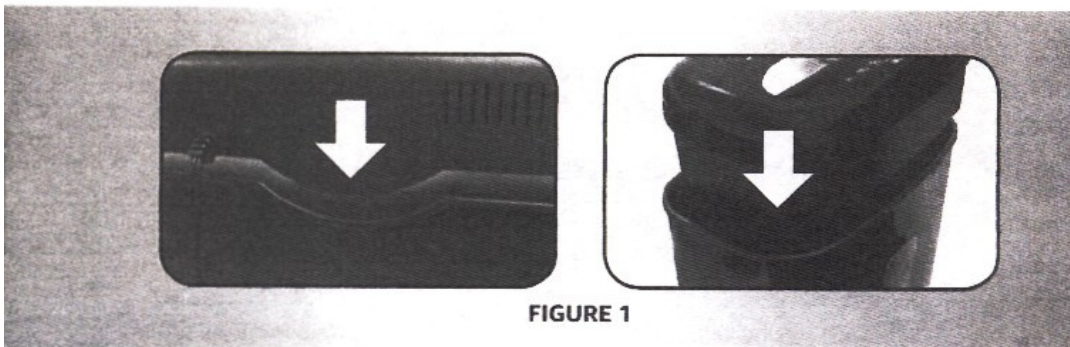

FIGURE 1
1. This model includes a built-in safety interlock mechanism, which requires the shredder to be correctly mounted on to the included wastebasket. THE SHREDDER WILL NOT OPERATE UNLESS IT IS PROPERLY MOUNTED AS PICTURED. (FIGURE 1)